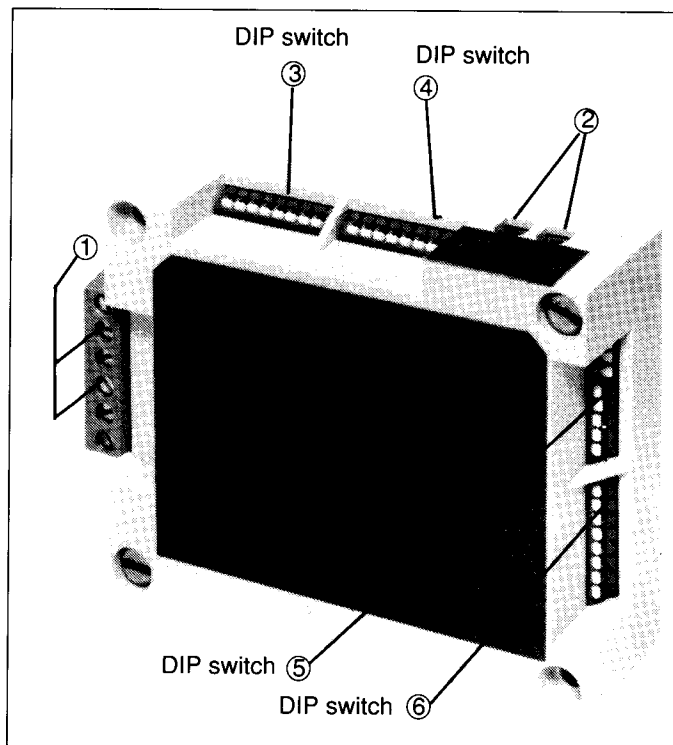

Fig. 6 IQ500M Special Function Module
The module has four eight-position DIP switches (DIP 3 through DIP 6 — Refer to Figure 6), two Form C relay outputs①, and two LEDs②. Program the IQ500M module before it is attached to an IQ-500 device. The DIP switches are shipped with all switches in the OFF condition, which is with the lever away from the position numbers. To turn a switch to the ON condition slide the lever toward the position number. Be sure that Position 8 of DIP switch 5 is OFF. If Position 8 is ON, all other settings on the IQ500M module are changed to work as load control.